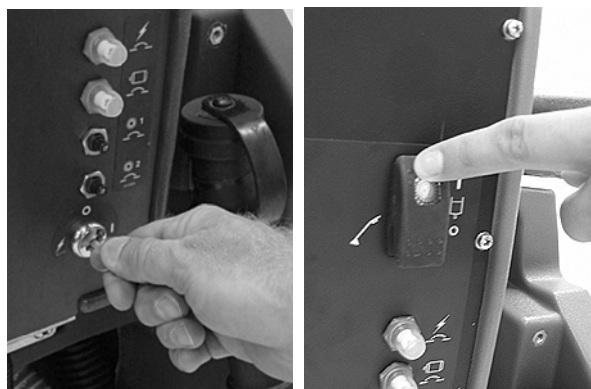

FIG. 6
1. Turn the key and the solution switch to the on (I) position (Figure 6).